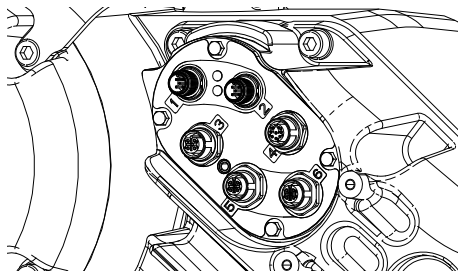

FIG. 50
- c. Loosen the cord grip (CG).
- d. Remove wires from Driver housing by pulling them through the cord grip (CG).
- e. Disconnect the cables connected to ports 1-6 on the side of the Driver (AB), shown in FIG. 50.